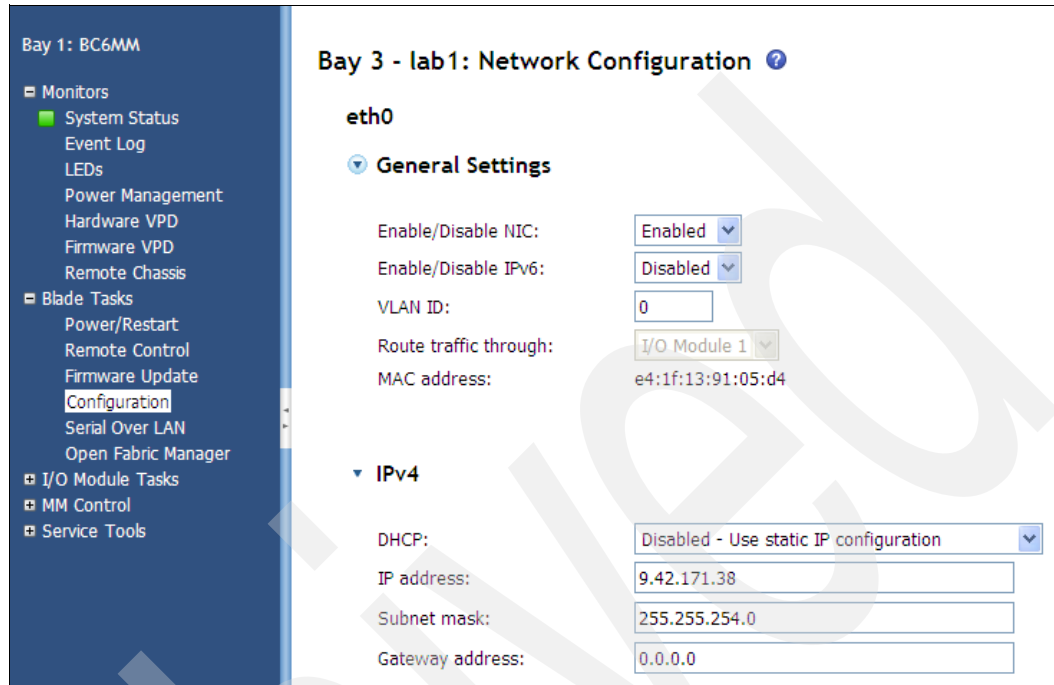

Figure 5-4 Setting FSP IP address
- Click the desired blade from the list displayed. Figure 5-4 shows the Network Configuration information and settings that relate to the FSP, allowing it to be present on the network.